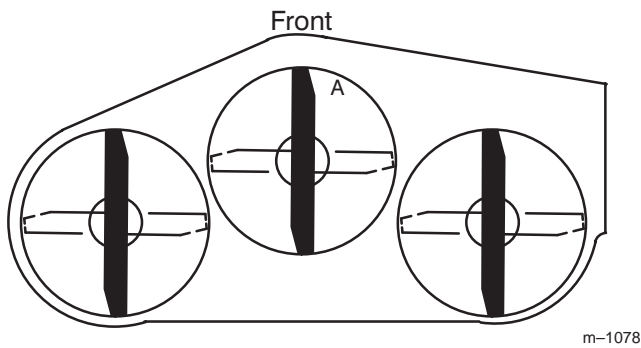
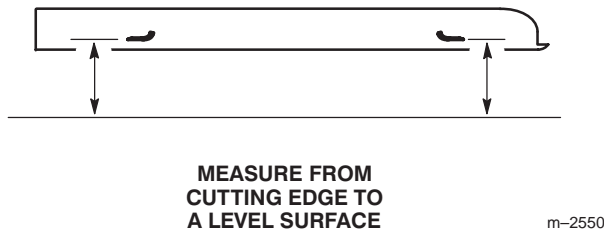

Figure 57
Figure 58
3. With the machine on level surface, position one blade front-to-rear (Fig. 57). Measure at **A** and from level surface to the cutting edge of the blade tips (Fig. 58).